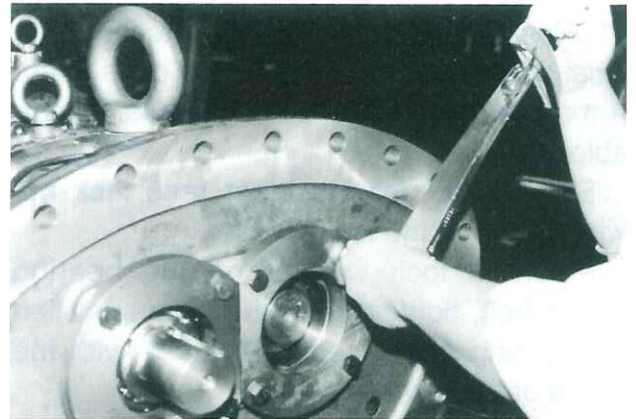

Fig. 120 Fastening Thrust Bearing Gland
8) Secure the thrust bearing outer race on the bearing head using the bearing gland (43) (ref. Fig. 120). Tighten the four bolts evenly to the specified torque.